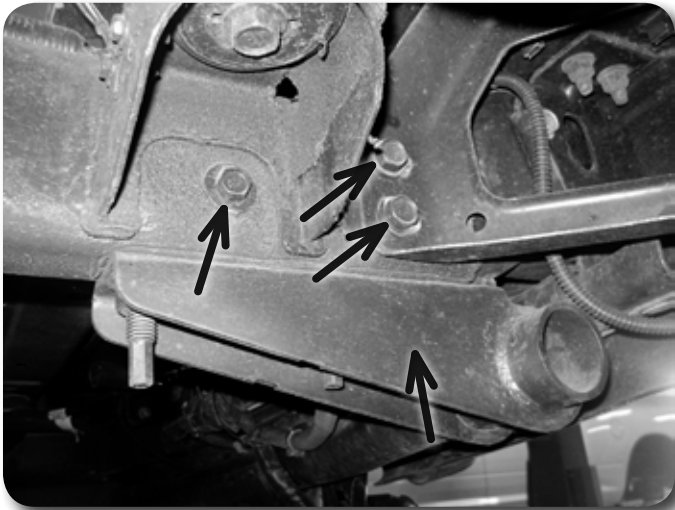

Figure 12
18. Remove 4 bolts per side that attach the bumper to frame rails. Figure 12.